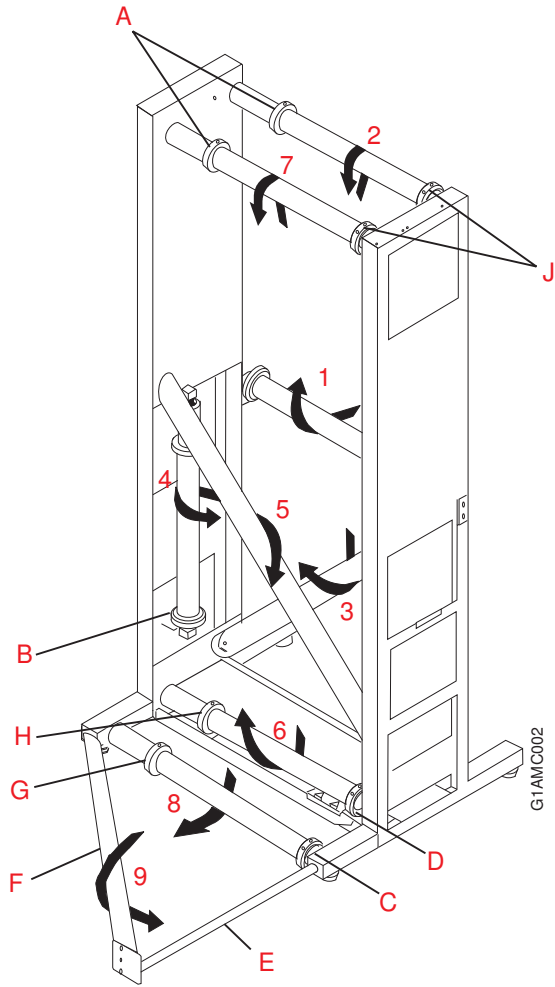

Figure 20. Left angle configuration for the tall buffer/flipper unit
- | Figure 20 on page 77 shows the Buffer/Flipper Unit from the front.
- | Use Figure 20 on page 77 to thread the forms through the Buffer/Flipper Unit. Use the numbered arrows as guides from Printer 1 at the middle of the figure (arrow **(1)**) to Printer 2 at the bottom of the figure (arrow **(9)**). The result is that the forms are buffered but not inverted between Printer 1 and Printer 2 and also make a 90° turn.